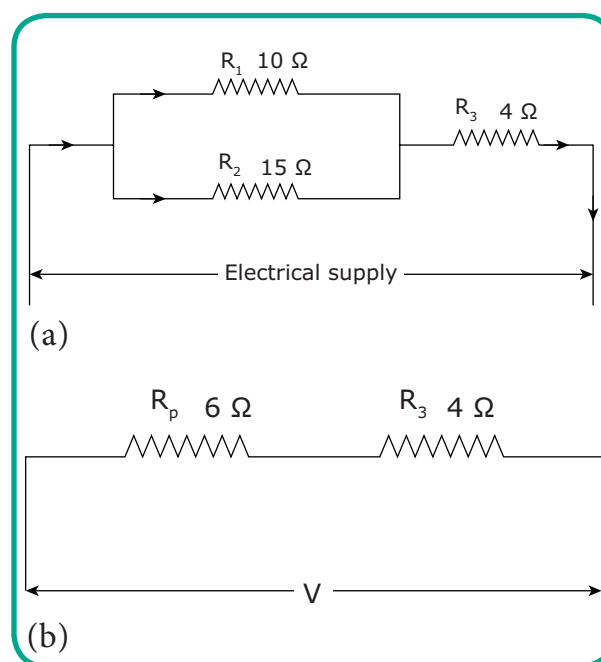

Figure 1.28
**Example:** Find out the total resistance of the circuit given in Figure 1.28.
In the circuit shown in Figure 1.28,  $R_1$  ( $10 \Omega$ ) and  $R_2$  ( $15 \Omega$ ) are parallel and  $R_3$  ( $4 \Omega$ ) is series with the resistors  $R_1$  and  $R_2$ .